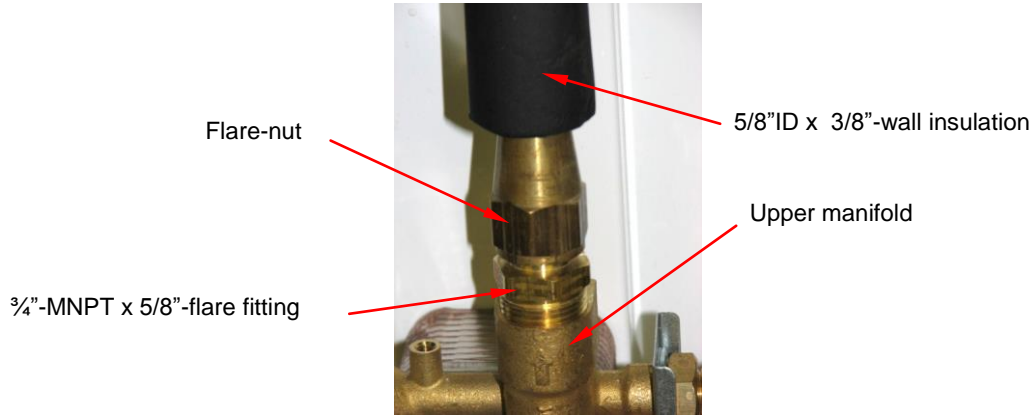

Fig.4.3.1 – L-soft copper water tube assembly connected to flare fitting in upper manifold.
5. Take 20½" x 5/8"OD insulated L-soft copper water tube assembly and seat flare-cone over flare fitting (¾"-MNPT x 5/8"-flare) at top of upper manifold. Thread lower flare-nut down onto flare fitting and tighten (*Fig.4.3.1*). Do not over-tighten as soft-copper flare-cone may be damaged.